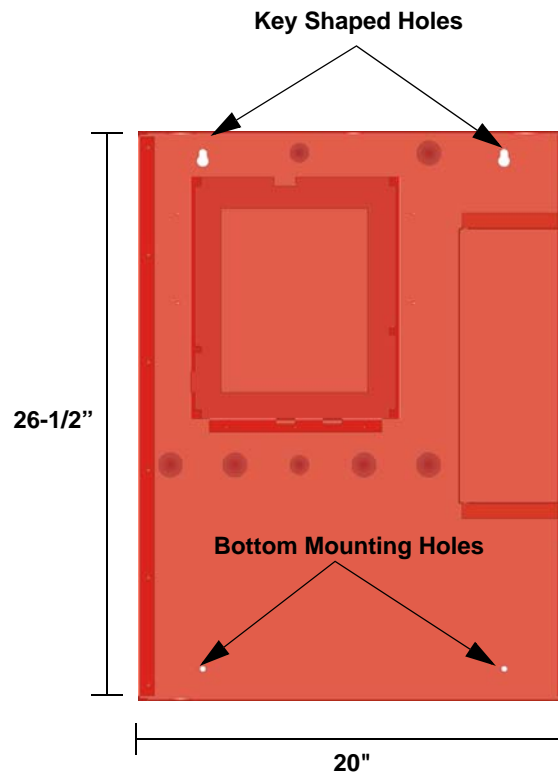

Figure 3-2 Cabinet Mounting Holes
The cabinet can be mounted on the wall surface by using the mounting holes in the back of the cabinet (see Figure 3-2).
1. Insert two screws level with each other, 14" apart for the top cabinet key shaped holes. See Figure 3-2.